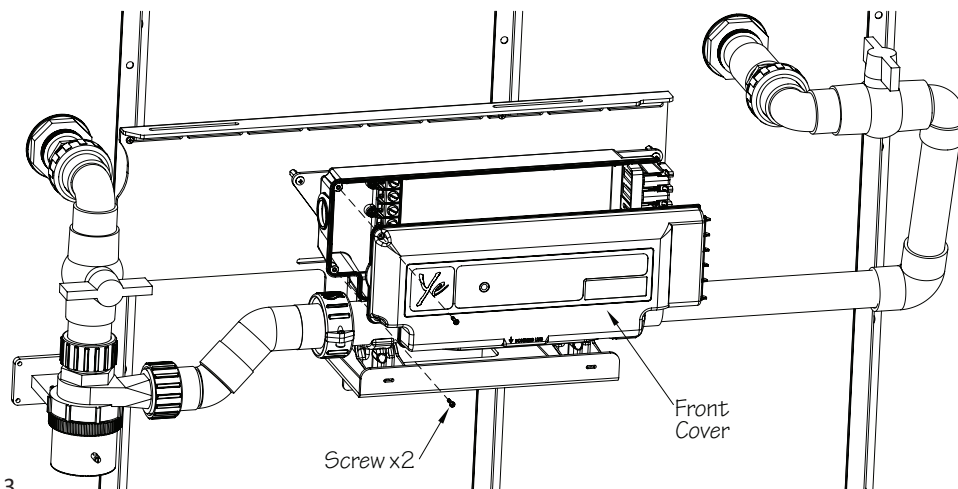

Fig. 13
13. Remove the front cover of the controller by removing the two screws (Fig. 13).